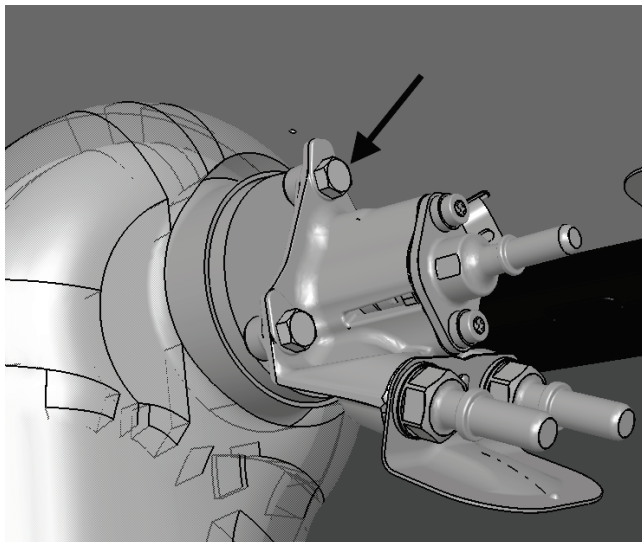

Figure 6
9. Disconnect DEF line. (Fig. 6)